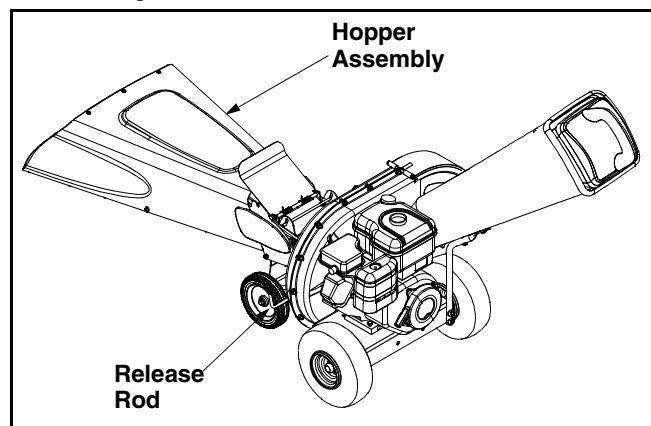

Figure 7
- With the other hand pull out on the release rod and lower the hopper assembly to the ground. See Figure 7.